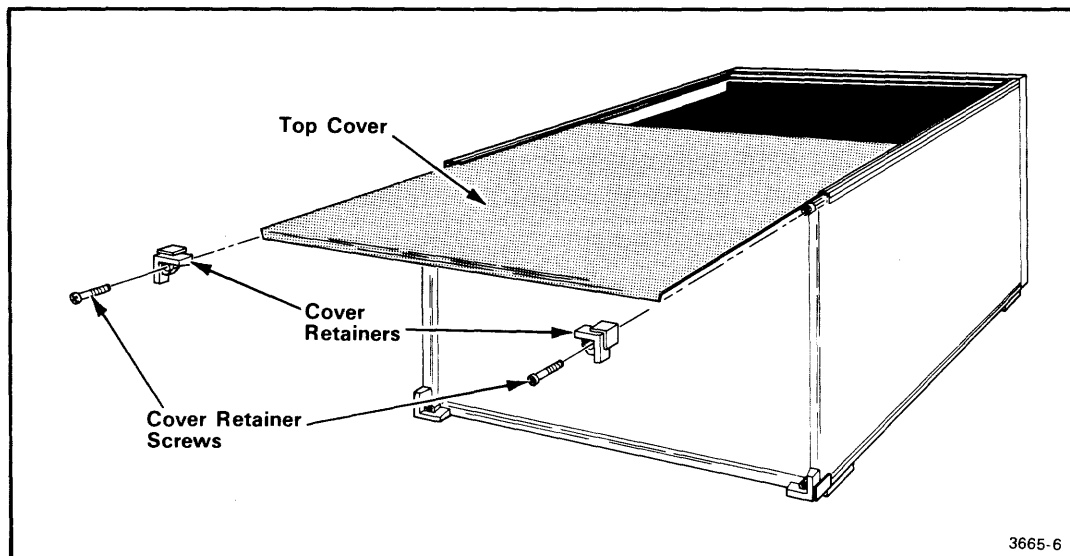

Fig. 8-1. Removal/Installation of top cover
2. Remove the cover retainers at the upper corners on the rear of the mainframe - see Fig. 8-1.
8. Install the cover retainers (removed in step 2) at the upper corners on the rear of the mainframe (Fig. 8-1). Tighten the cover retainer screws securely.